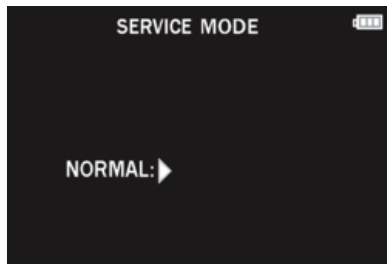

Fig. 3-1
- Turn the Power on pressing "[ LEFT ] of Cursor buttons" and [ AF/AF LOCK ] button simultaneously. LCD monitor displays "SERVICE MODE". (Refer to Fig. 3-1)